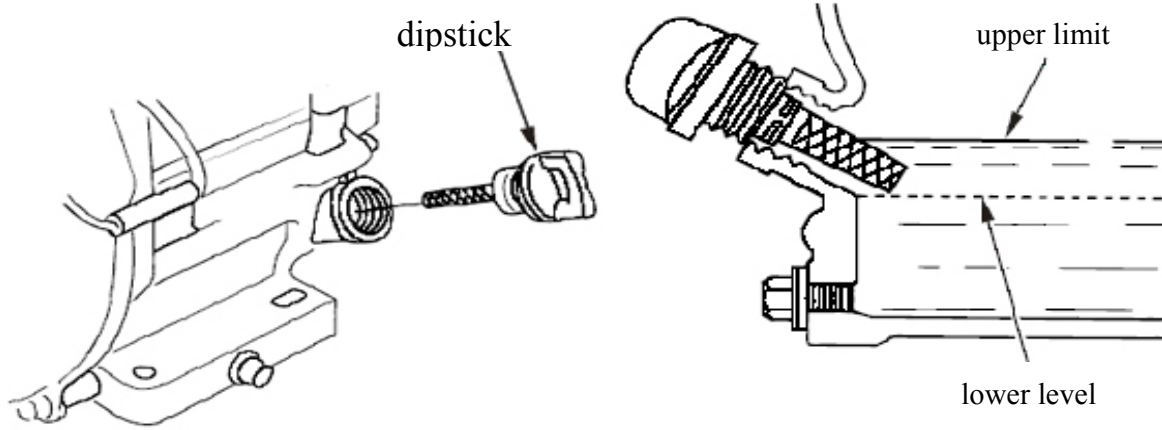

Figure 5
- 1) Loosen out the dip stick of the engine, and wipe it off (see Figure 5).